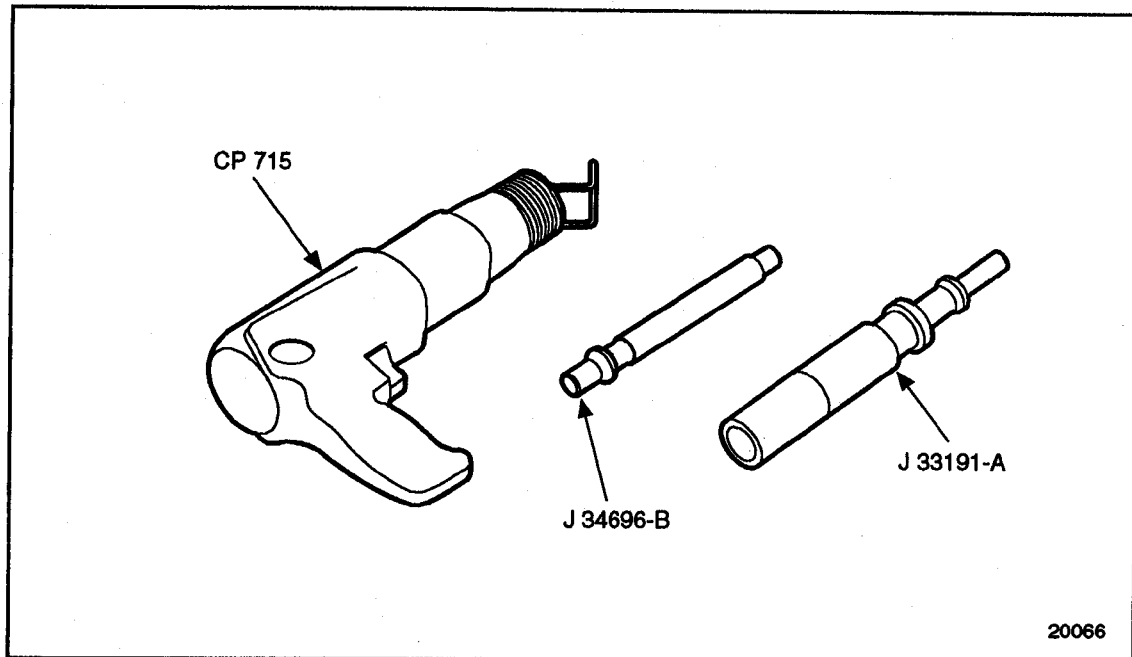

Figure 1-70 **Valve Guide Removal Tools**
1. Assemble the valve guide remover, J 34696-B, to an air chisel. See Figure 1-70.